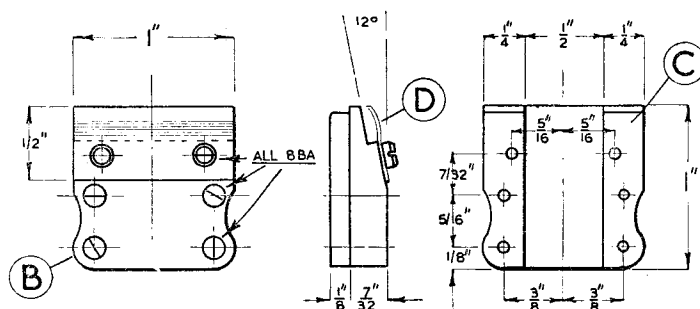

Fig. 4. B—the plane; C—the guide strips; D—the blade spring-holder
broken through ; but if there is any doubt on this score, it is advisable either to clamp an additional steel strip to the work to guide the drill, or to use a larger piece of material and then cut away the unwanted portion. The small plane (B) is built up in the way shown in Fig. 4. The base is fitted with two guide strips (C) or, if preferred, the part can be milled to shape from the solid. A spring-steel plate (D) is fitted for holding the blade in place.